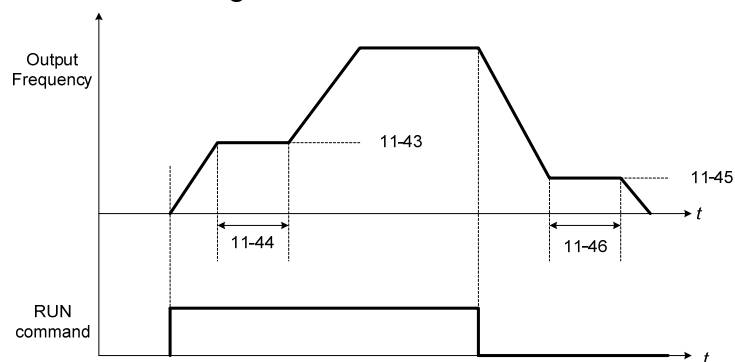

Figure 4.3.94 Retaining function
- . The acceleration of deceleration time does not include the start and stop of the Retaining time. Refer to the figure 4.3.94.